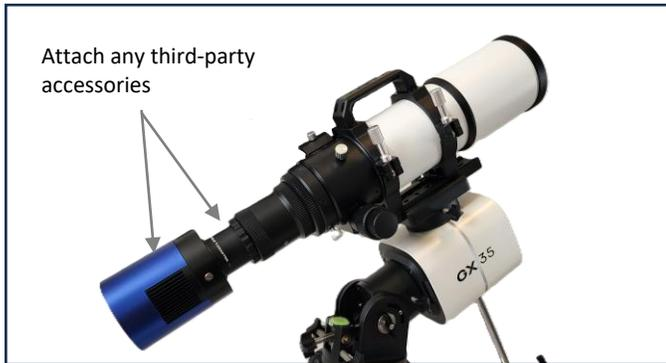

Fig. 2.21
- Add Accessories:** Attach all OTA accessories (diagonals, eyepieces, filters, cameras, dew shields, etc.) *before* balancing. See Fig. 2.21.